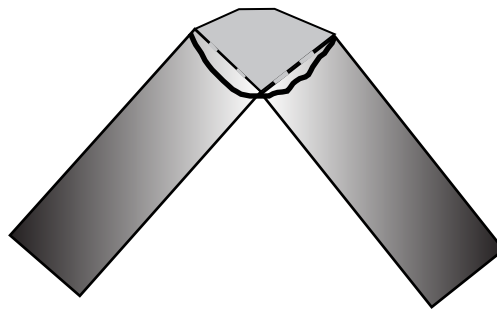

Figure 14
2. Using a 90° welding magnet, set up pieces #4 and #5 in an open corner joint weld position (Figure 14).